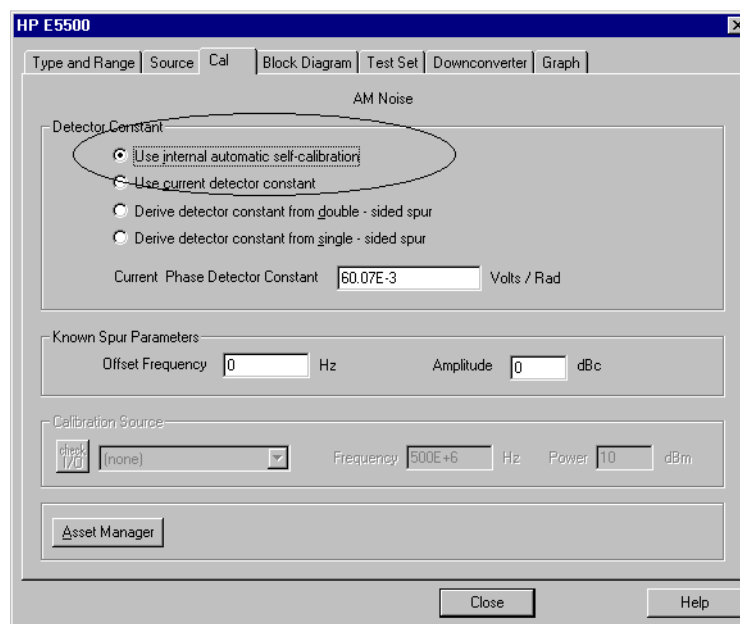

Figure 13-5 Enter Parameters into the Cal Tab
- 10 Select **Use automatic internal self-calibration** as the calibration method. See Figure 13-5. For more information about various calibration techniques, refer to Chapter 12, “AM Noise Measurement Fundamentals”.